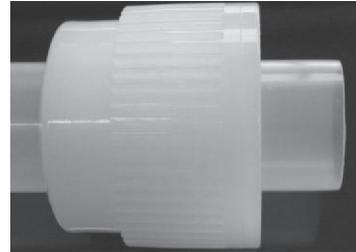

Figure 1
2. Insert the cut end of the tubing through the non-threaded end of the nut (Figure 1).